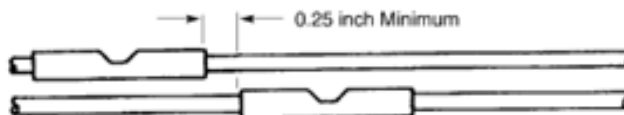

Figure 7-49. The location of the splices when it is necessary to keep the diameter of the wire harness
- When the repair of more than one wire in a wire harness is necessary, the minimum distance between the end of the splice on one wire and the opposite end of the splice on an adjacent wire must be 0.25 inch (**Fig. 7-49**);